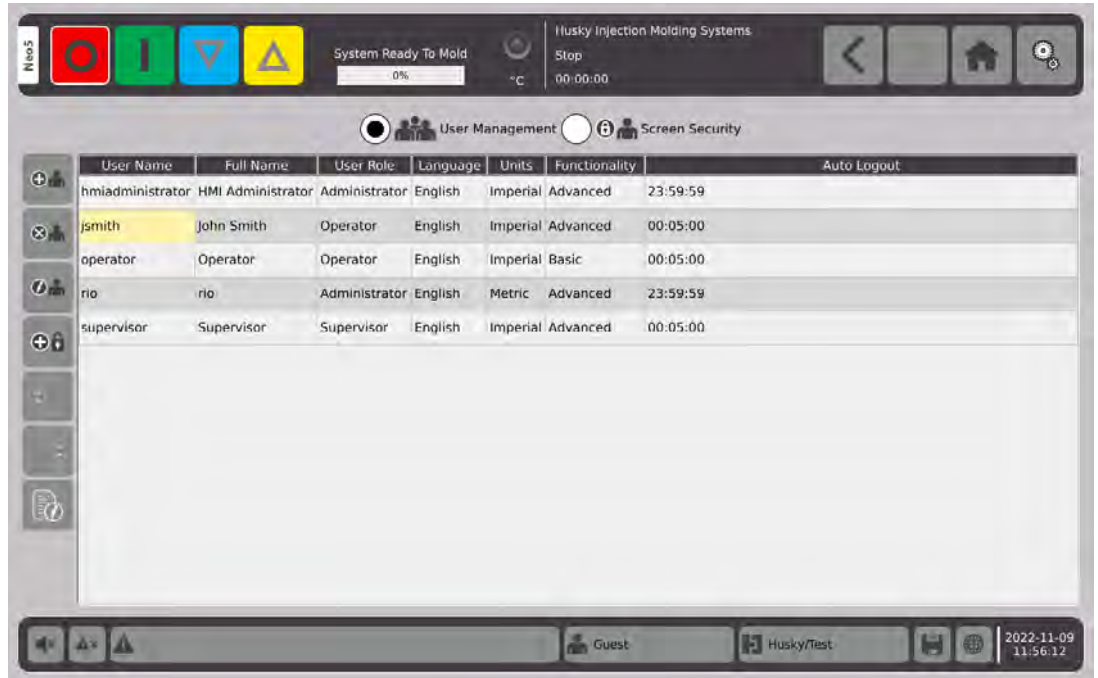

Figure 5-16 Select the User for a Password Change
1. Select the user in the **User Name** column (refer to Figure 5-16).